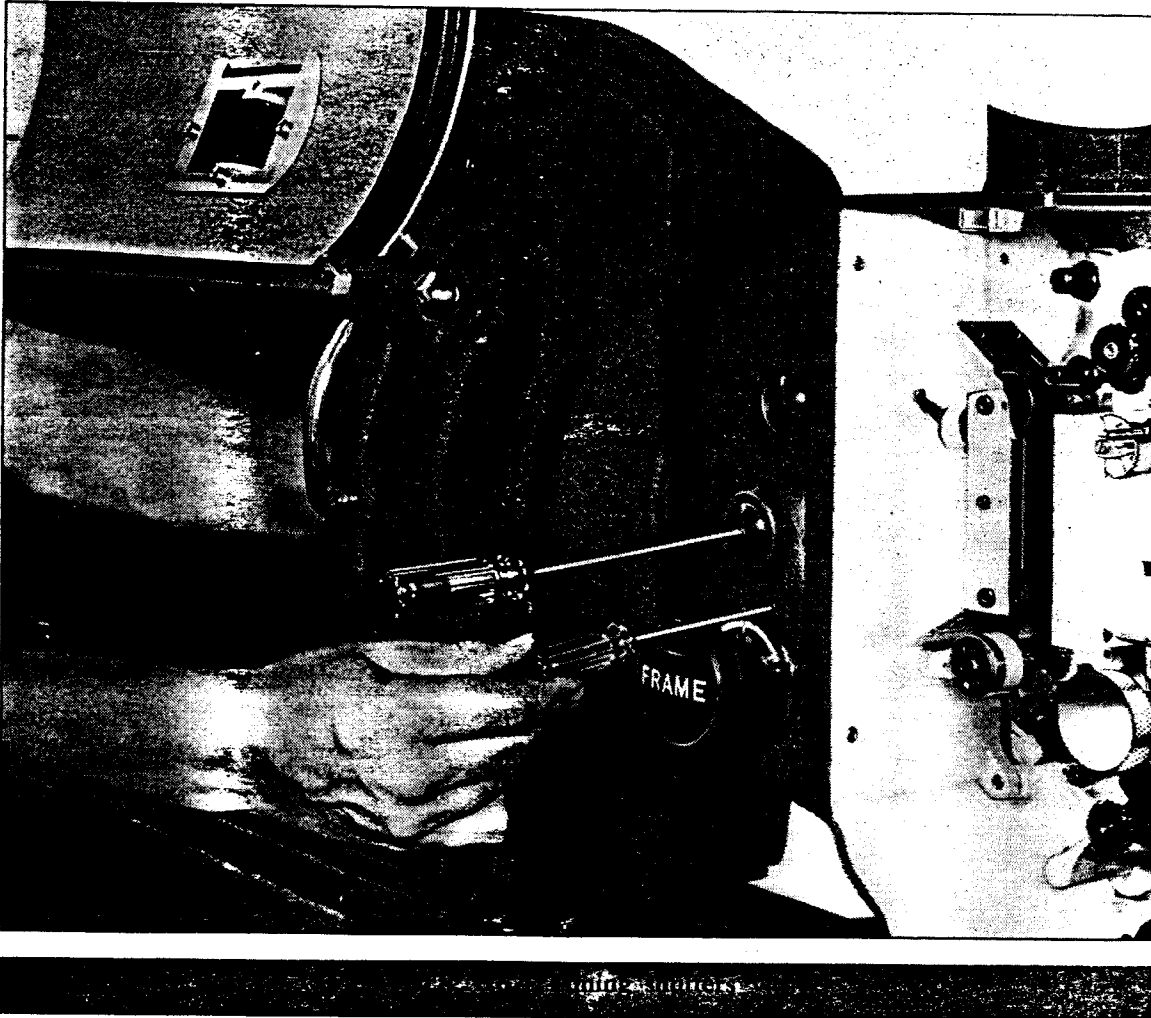

FIG. 16 TIMING SHUTTER
Timing of the double-shutter of the "AA" (Fig. 16) is a relatively simple matter and can be effected in a few minutes without the use of special tools and devices, using merely three of the Allen wrenches provided with the mechanism.
2. The inner shutter rotor is locked to its drive shaft by a cone-type clutch, which is released by loosening the socket screw in the center of the bearing cap just above the framing control (as shown in Fig. 16). The clutch screw that locks the outer shutter rotor to its drive shaft is located in the center of the shutter drive gear (on the gear side of the mechanism). These screws should be released (not removed) until both rotors revolve freely.